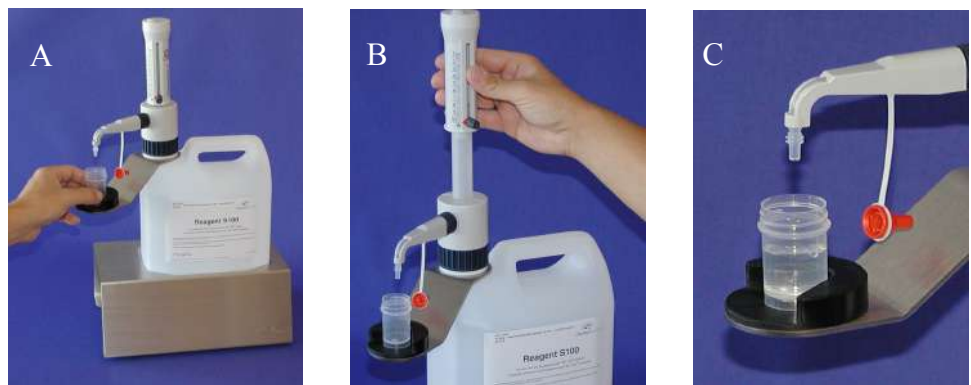

Figure 2. (A) Placing the sample cup in the cup holder; (B) Dispensing 10 ml of Reagent S100; (C) Sample cup with lyzate mixture.
- 4A. Place the sample cup in the cup-holder and dispense **10,00 ml** of Reagent S100 into the cup using the dispenser. Dispense the reagent directly onto the semen sample at the bottom of the cup. Use a firm, consistent plunger pressure, so that the plunger moves smoothly. (*cf. figure 2*)
- 4A. Place the sample cup in the cup-holder and dispense **10,00 ml** of Reagent S100 into the cup using the dispenser. Dispense the reagent directly onto the semen sample at the bottom of the cup. Use a firm, consistent plunger pressure, so that the plunger moves smoothly. There is no need for further mixing, since the sample and the reagent are thoroughly mixed during the dispensing of the Reagent S100. (*cf. figure 2*)